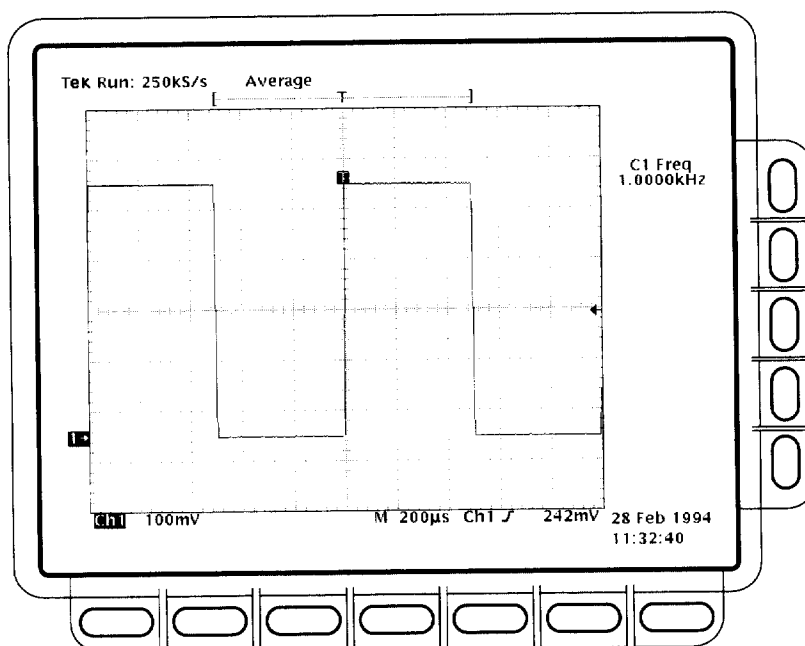

Figure 1–24: Measurement of probe compensator frequency
- CHECK that the **CH 1 Freq** readout is within 950 Hz to 1.050 kHz, inclusive. See Figure 1–24.